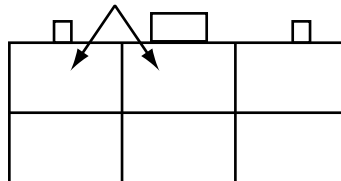

Figure 6-3 Jumper Engine connector. Pins as shown for flash codes (Flash Codes)
- Jump pins shown in Figure 6-3 and turn the ignition on. Engine and ABS codes flash the same. See Figure 6-7 and Table 6-1 for manual code reading information.